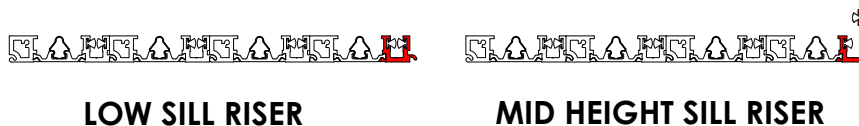

FIG 32
- Multi-slide sills come in a variety of riser heights and should be noted as to the one specified for your application. **[FIG 32]**